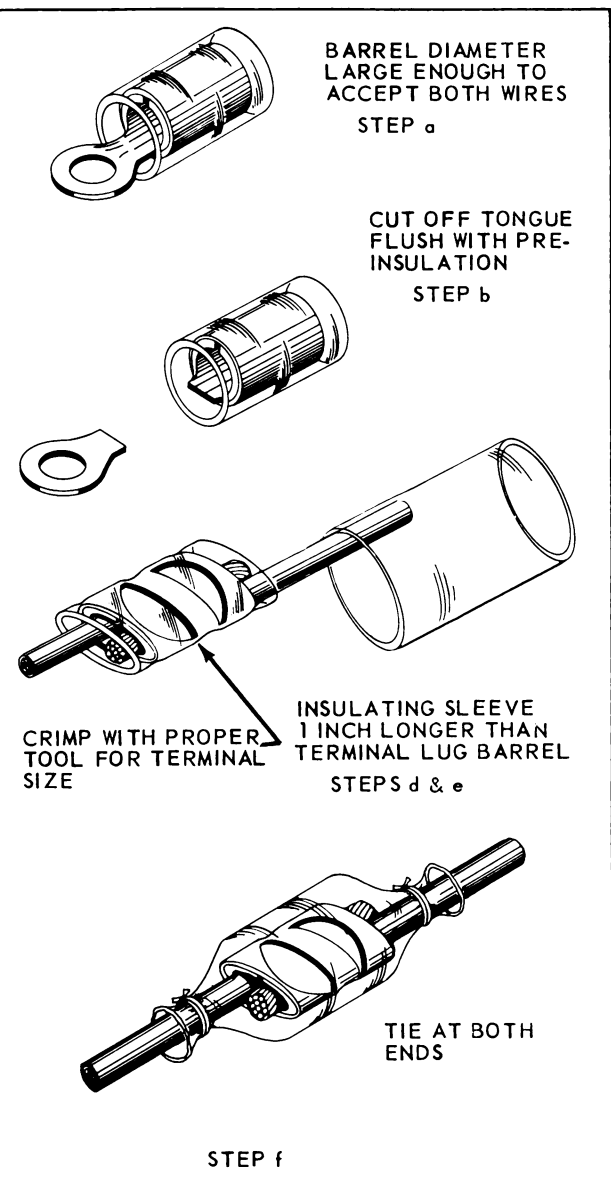

Figure 14-2. Terminal Lug Barrel Repair
- Crimp the barrel in the center following the procedures of Section V. (See Figure 14-2).